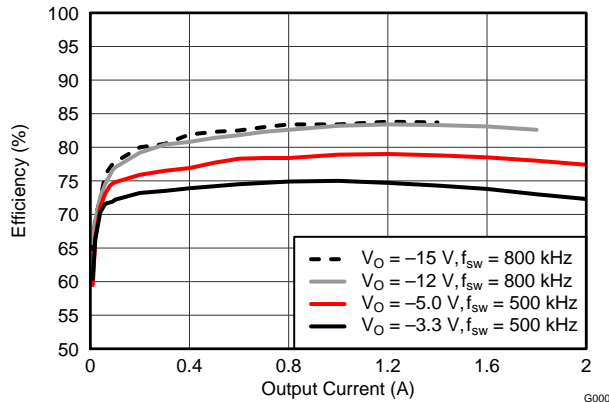
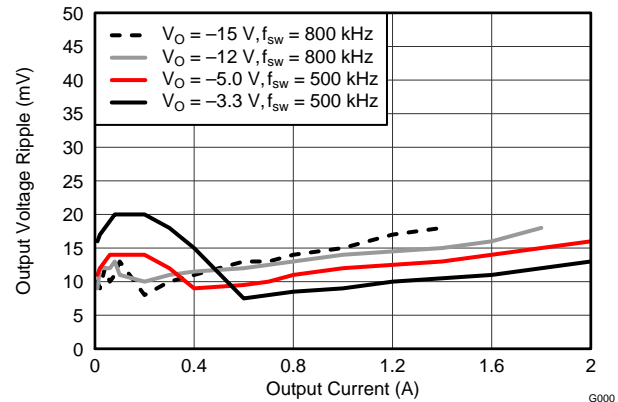
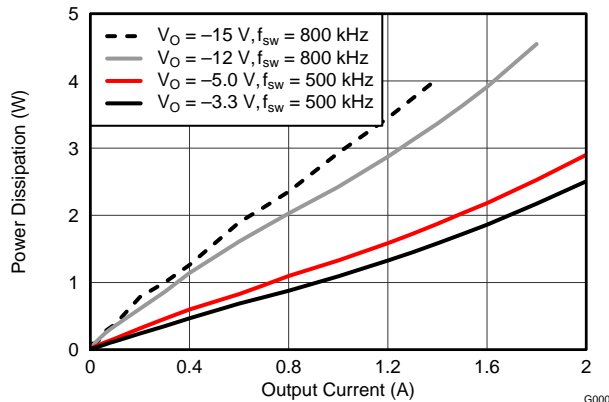

Figure 21. Efficiency vs. Output Current
Figure 22. Voltage Ripple vs. Output Current
Figure 23. Power Dissipation vs. Output Current
- (1) The electrical characteristic data has been developed from actual products tested at 25°C. This data is considered typical for the converter. Applies to Figure 21, Figure 22, and Figure 23.
- (2) At light load the output voltage ripple may increase due to pulse skipping. See for more information. Applies to Figure 22.